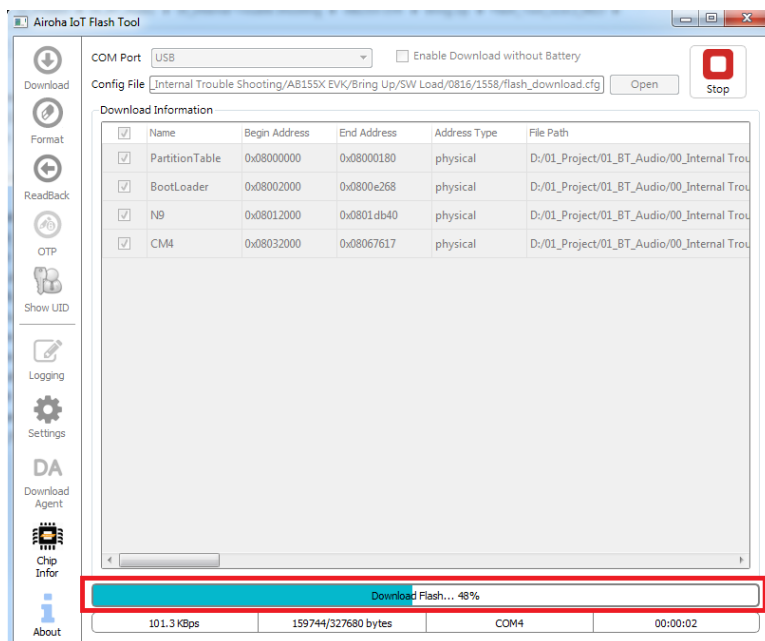

Figure 5-4 Downloading the flash file
2) Set the UART on the board as shown in Figure 5-4.